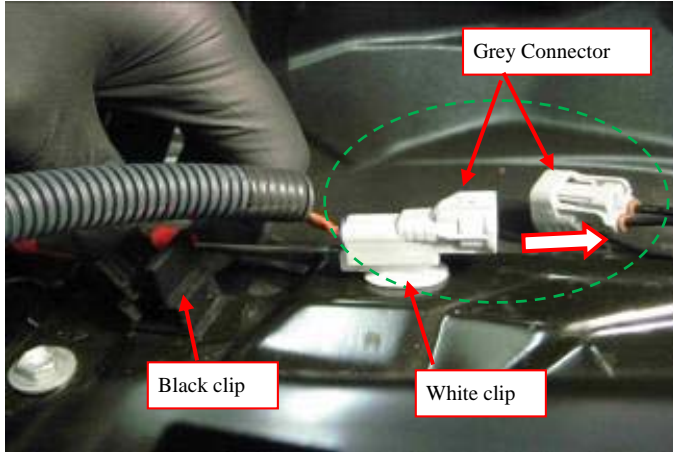

Figure 1-9
- b) If applicable, disconnect grey connector located on passenger side (Figure 1-9) and disengage vehicle wire from the black clip.
- b) Using a small flat screwdriver (Figure 1-9), disengage the grey connector housing from the white clip without removing the clip from the metal cowl.